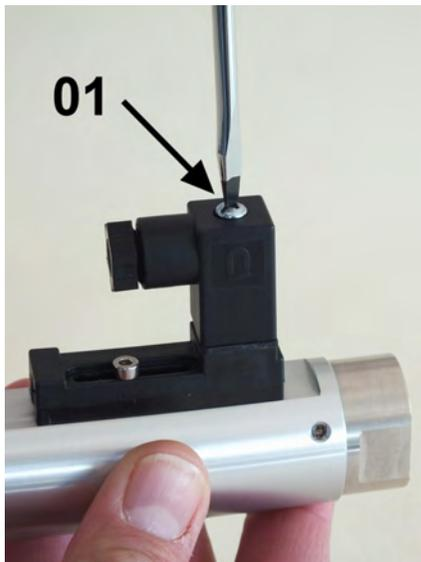

Fig. 21: Detach socket
1. ➤ Release the fixing screw (Fig. 21/01) from the socket.
9. ➔ Plug the socket onto the connector plug and tighten the fixing screw (Fig. 21/01)